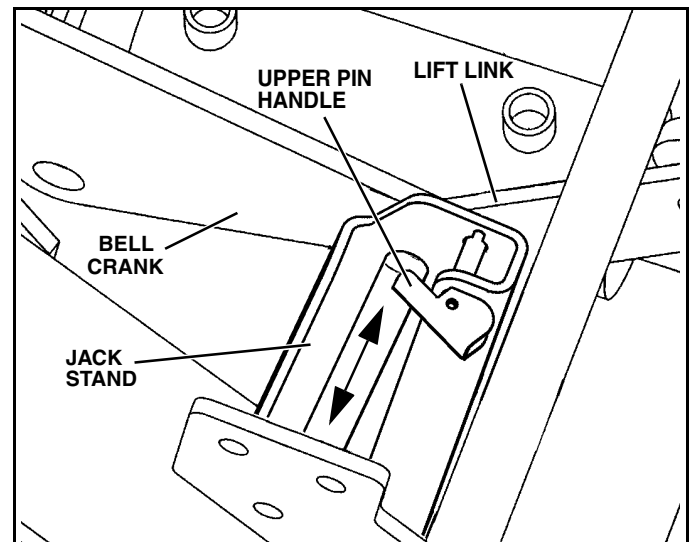

Figure 1-29
7. Disengage lower jack stand pin by pulling on handle. Lower the jack stand and engage the top pin by pushing on the handle. Make sure pin is engaged in hole by rotating jack stand back and forth (See Figure 1-29).